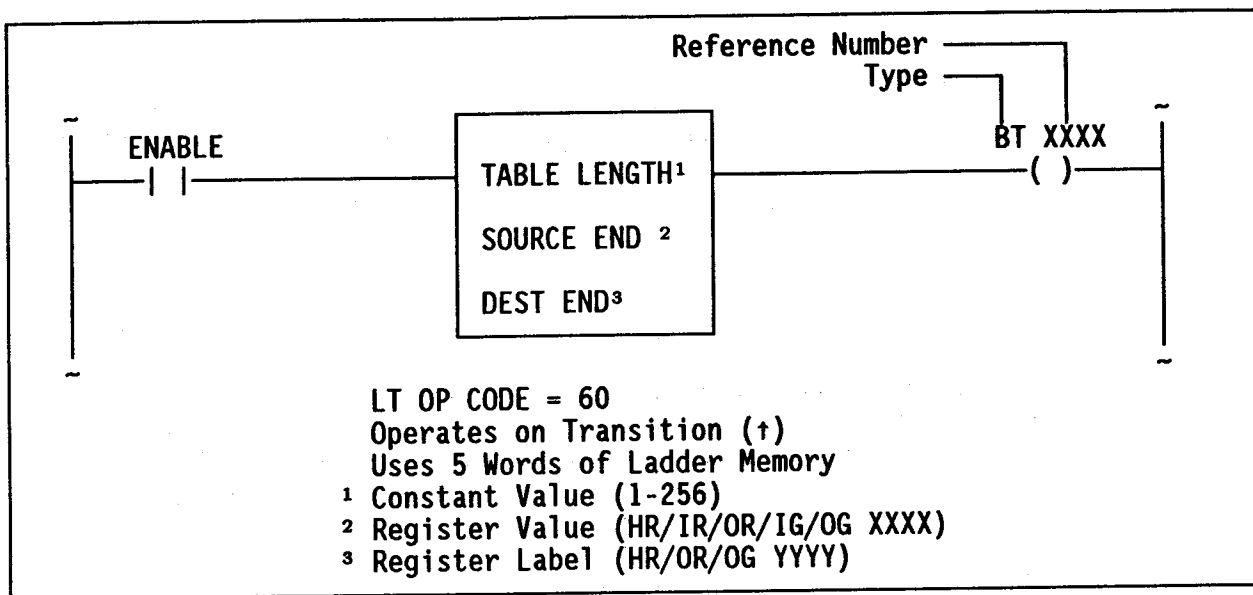

Figure 1. Block Transfer (BT)
The Block Transfer (BT) function allows the user to copy a table of registers, 1 through 256 registers in size, into a similarly-sized table of registers. The transfer occurs when the enable circuit controlling the function changes from open (non-conducting) to closed (conducting). BT function symbology is shown in Figure 1.